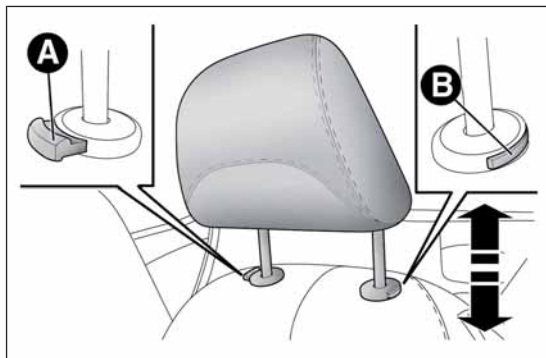

fig. 25
- downwards adjustment: press button A fig. 25 and lower the head restraint.
- press buttons A and B fig. 25, then remove the head restraints by pulling them upwards.